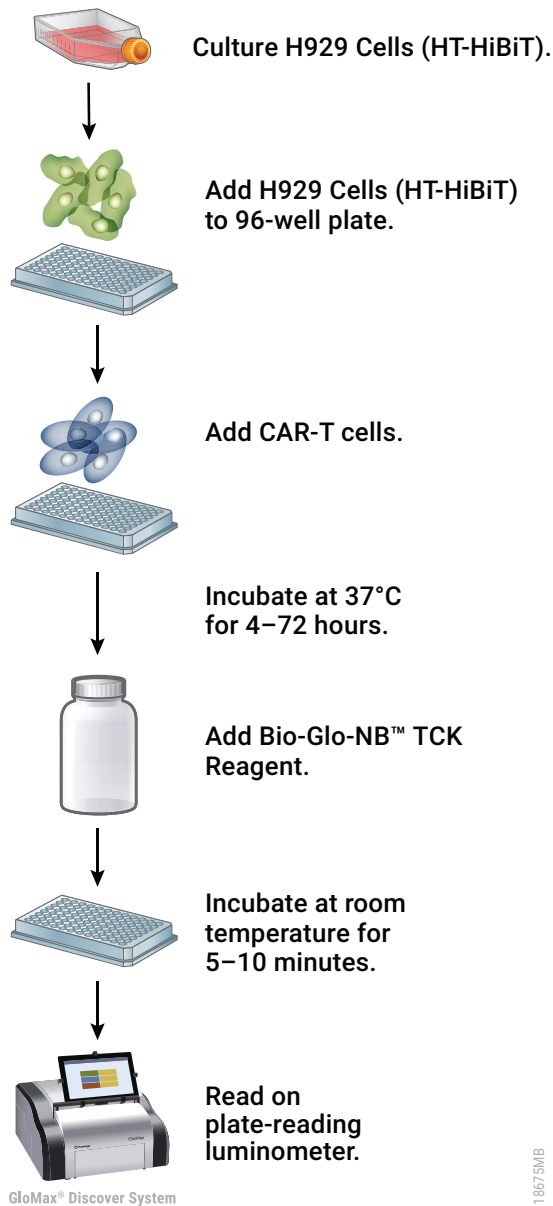

Figure 12. Schematic protocol for CAR-T assay using H929 Cells (HT-HiBiT).
This procedure illustrates the use of H929 Cells (HT-HiBiT) to test CAR-T effector cells against a reference sample in a single cytotoxicity assay (Figure 12). Each test and reference CAR-T is assayed in triplicate, in an eight-point effector-to-target (E:T) ratio dilution series, in a single 96-well assay plate using the inner 60 wells. Other experimental and plate layouts are possible but may require further optimization.
3. Using a multichannel pipette, add 40 μ l of the appropriate CAR-T dilution to wells B3–G10 of the assay plates according to the plate layout in Figure 12. Add 40 μ l of CAR-T assay buffer to MR and SR control wells (B2–G2 and B11–G11, respectively).